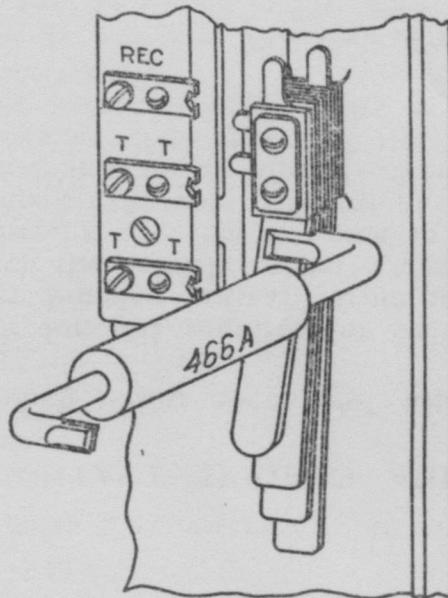

Fig. 22
- (b) If springs do not have the desired follow adjust with No. 466A tool as shown in Fig. 22.